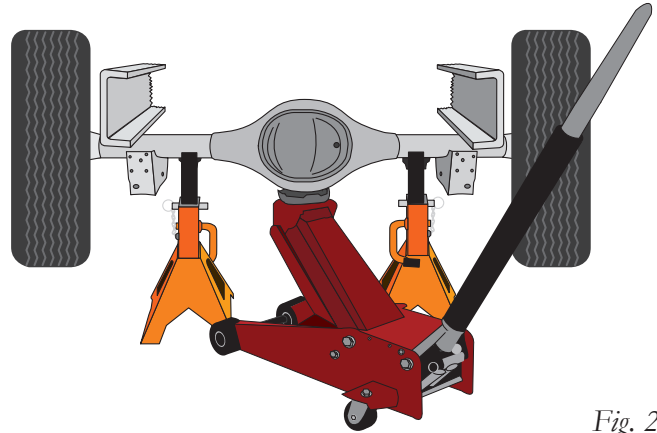

Fig. 2
1. Lift the vehicle and support the axle with safety stands (Fig. 2). Remove the rear wheels.